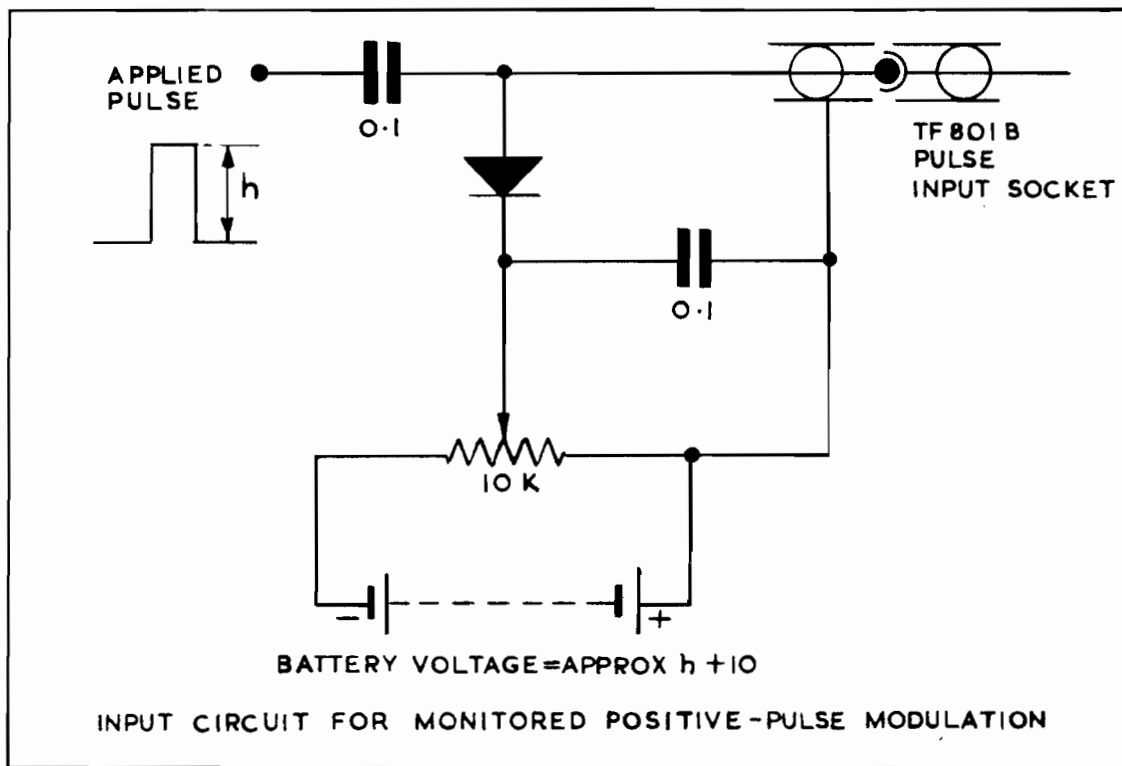

FIGURE 2
- (1) Connect a germanium crystal diode, a variable d.c. voltage source comprising a battery and  $10\text{-k}\Omega$  potentiometer, and two  $1\text{-}\mu\text{F}$  capacitors into a circuit as shown in figure 2 of drawing No. TBB 24855 following page 17. It is important that the diode is not connected in the reverse direction to that shown; the electrode corresponding to the anode of a thermionic diode should be connected to the PULSE socket inner. A high backward-resistance diode such as the B.T.H. CG1E should be used - with this diode, the "red" electrode should be connected to the slider of the potentiometer.